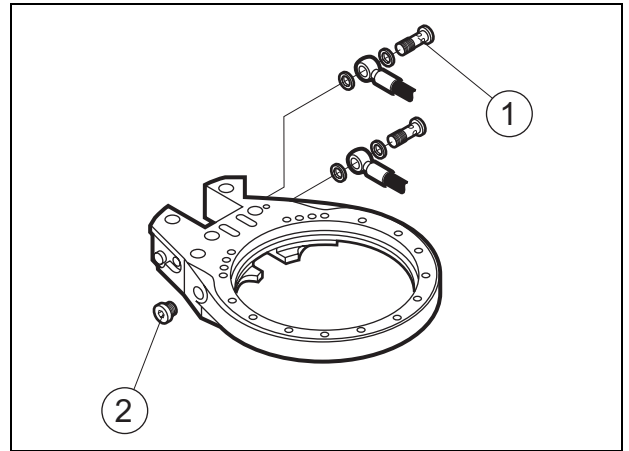

Fig. 51 Check valve for chain tensioning
To prevent the chain from jumping off unintentionally if the saw chain is affected by external forces, ie if the saw chain is stuck in under growth when lifting the unit, a check valve (1) is assembled at the inlet port for the chain tensioner. See Fig. 51.